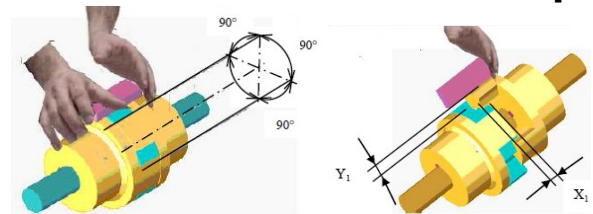

Figure 3: The Control of the Coupling Alignment in Horizontal and Vertical Planes
- Install the pump on the concrete base as illustrated in Figure 3.